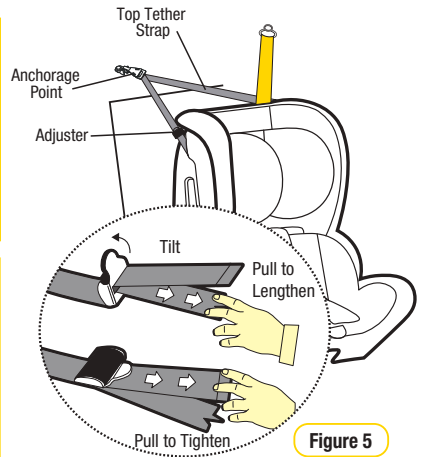

Figure 5
**Step 6:** Pull to tighten to remove all the slack, from the upper anchorage strap. Do not overtighten as this could cause the restraint to lift off the vehicle seat (refer to Figure 5).